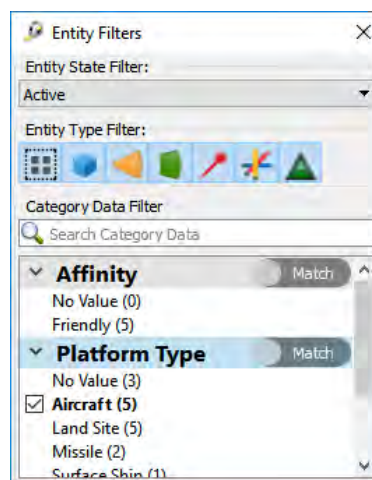

Figure 5.64: Entity Filter Example
6. In the **Category Data Filter** list, click **Aircraft(5)** under the **Platform Type**. Notice that a checked-box will appear left of the **Aircraft(5)** platform type, shown in Figure 5.64.